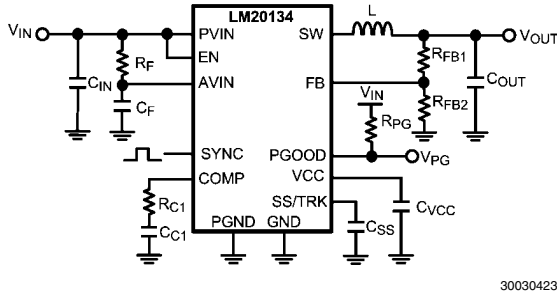

FIGURE 2. Typical Application Circuit
The LM20134 switching regulator features all of the functions necessary to implement an efficient low voltage buck regulator using a minimum number of external components. This easy to use regulator features two integrated switches and is capable of supplying up to 4A of continuous output current. The regulator utilizes peak current mode control with nonlinear slope compensation to optimize stability and transient response over the entire output voltage range. Peak current mode control also provides inherent line feed-forward, cycle-by-cycle current limiting and easy loop compensation. The internal oscillator can synchronize up to 1.5 MHz minimizing the inductor size while still achieving efficiencies up to 96%. The precision internal voltage reference allows the output to be set as low as 0.8V. Fault protection features include: current limiting, thermal shutdown, over voltage protection, and shutdown capability. The device is available in the eTSSOP-16 package featuring an exposed pad to aid thermal dissipation. The LM20134 can be used in numerous applications to efficiently step-down from a 5V or 3.3V bus. The typical application circuit for the LM20134 is shown in *Figure 2* in the design guide.
This section walks the designer through the steps necessary to select the external components to build a fully functional power supply. As with any DC-DC converter numerous trade-offs are possible to optimize the design for efficiency, size, or performance. These will be taken into account and highlighted throughout this discussion. To facilitate component selection discussions the circuit shown in *Figure 2* below may be used as a reference. Unless otherwise indicated all formulas assume units of amps (A) for current, farads (F) for capacitance, henries (H) for inductance and volts (V) for voltages.
To prevent high frequency noise spikes from disturbing the sensitive analog circuitry connected to the AVIN and AGND pins, a high frequency RC filter is required between PVIN and AVIN. These components are shown in Figure 2 as C_F and